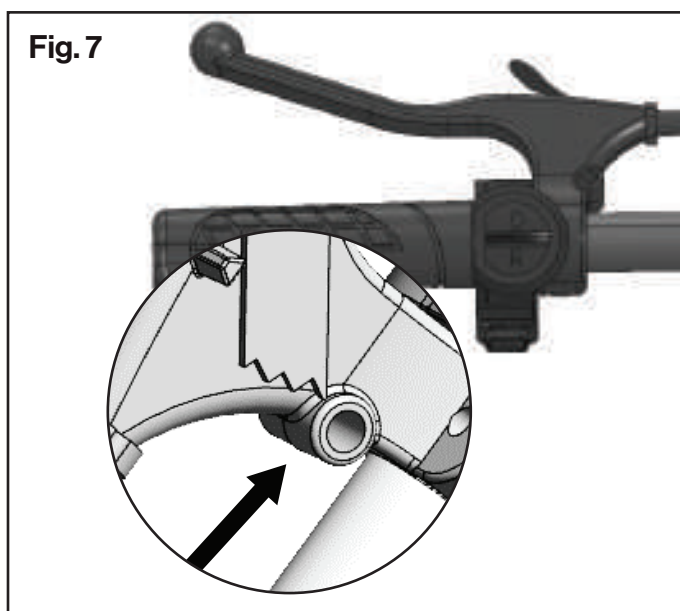

Fig. 7
5. If necessary, turning the brake handle forward, and close the screw with Hex key. (See Fig. 7)